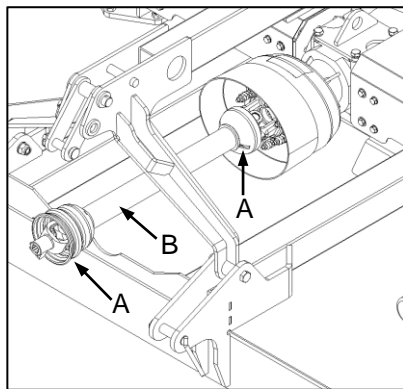

Fig. 11 (F60-350V)
- ✔ Apply grease to the universal joints (Fig. 11-A/12-A) and telescopic tubes (Fig. 11-B/12-B) of the main PTO driveshaft.
- ✔ Ghries die kruiskoppelings (Fig. 11-A/12-A) en teleskopiese buise (Fig. 11-B/12-B) van die hoofkragaftakkeras.